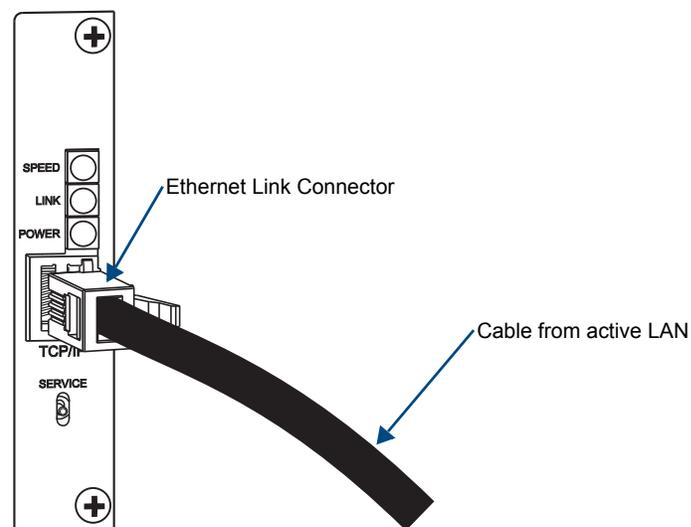

FIG. 72 Fasten Ethernet link connector
3. Insert the other end of the cable into the TCP/IP (RJ-45) jack on the APWeb board (FIG. 72).